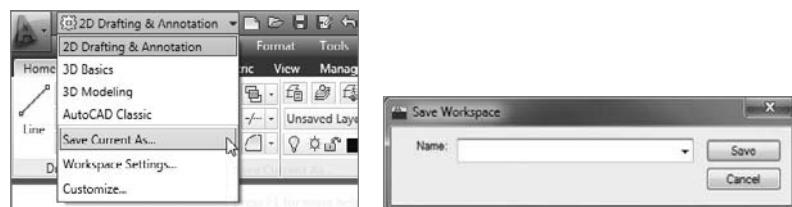

FIGURE 1.38 The Save Workspace dialog box
1. Click the Workspace Switching drop down list next to the Application menu, or on the right side of the status bar, and choose Save Current As from the menu, as shown on the left in Figure 1.38. This opens the Save Workspace dialog box, shown on the right in Figure 1.38.